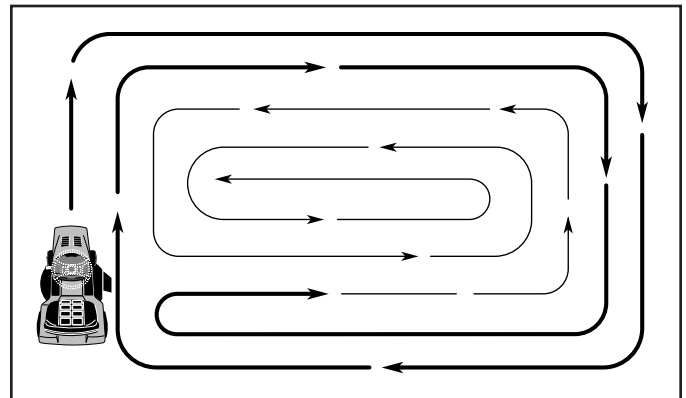

Fig. 25
- When mowing large areas, start by turning to the right so that clippings will discharge away from shrubs, fences, driveways, etc. After one or two rounds, mow in the opposite direction making left hand turns until finished (See Fig. 25).